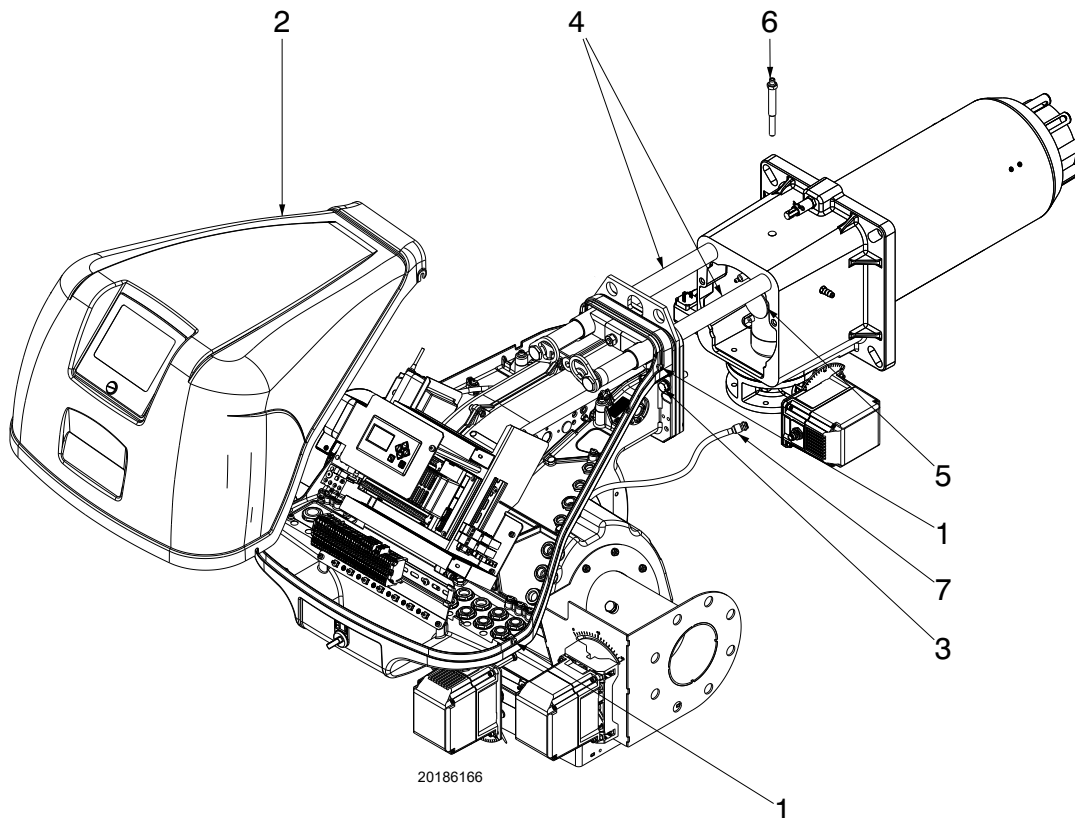

Fig. 38
Make sure that the gas outlet holes for the start-up, on the combustion head distributor, are free of dirt or rust deposits. If in doubt, disassemble the elbow (Fig. 38 on page 42).
- Loosen the 4 screws 1)(Fig. 38) and remove the hood 2).